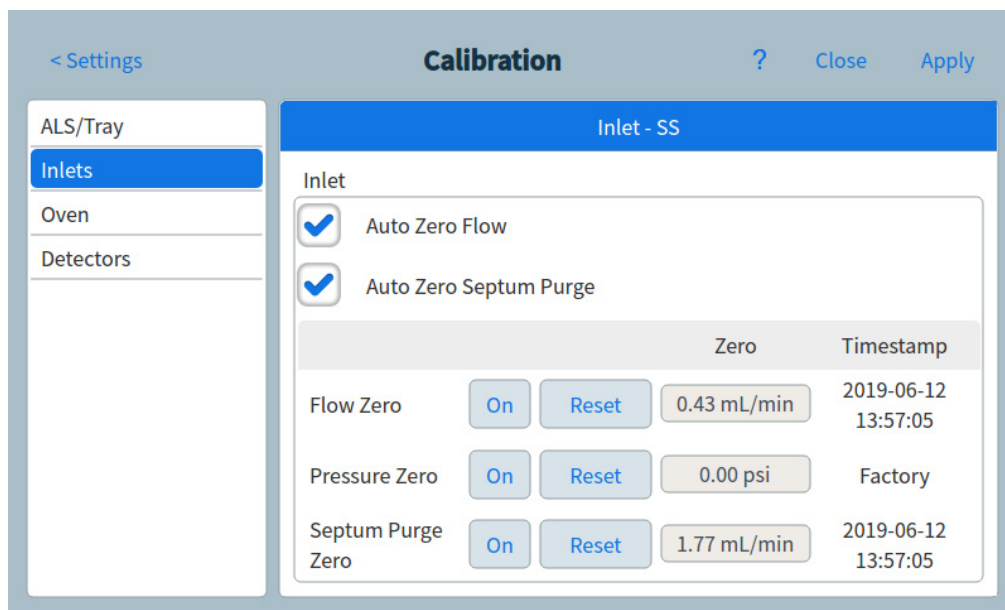

Figure 42 Calibration page
- 2 Press **Calibration**. The Calibration page appears. See Figure 42.